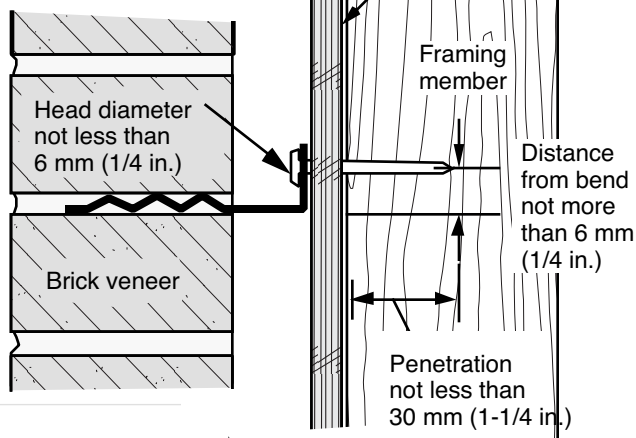

FIGURE 48
- ◆ Corrosion-resistant masonry veneer ties are required for brick veneer that is thicker than 75 mm (2-15/16 in.). Ties must be at least 1 mm (1/32 in.) thick, 22 mm (7/8 in.) wide, and shaped to provide a key with the mortar. Fasteners for ties should penetrate no less than 30 mm (1-1/4 in.) (see Figure 48).